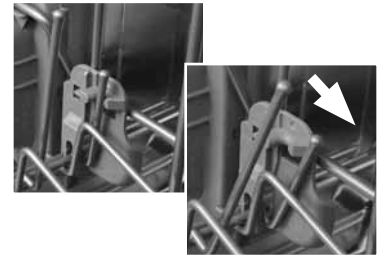

Figure 4
2. Grasp the top of the rack above the Automatic Height-Adjustable Top Rack handles and pull it upward as shown in Figure 4 until the Automatic Height-Adjustable Top Rack handles lock the rack into position (you do not need to press the Automatic Height-Adjustable Top Rack handles in order to raise the rack).